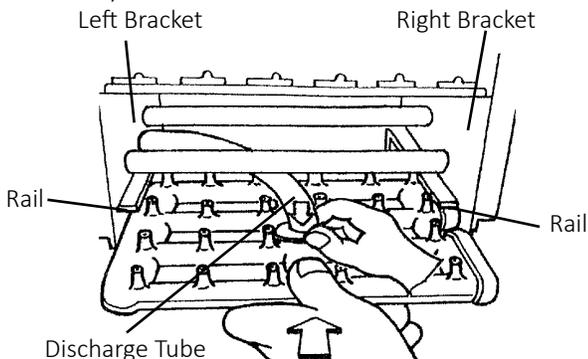

Fig. 35
- Slide in the spray assembly along the rails on the left and right brackets. See Fig. 35. Connect the discharge tube securely to the spray assembly; a loose fitting may cause a water leak.